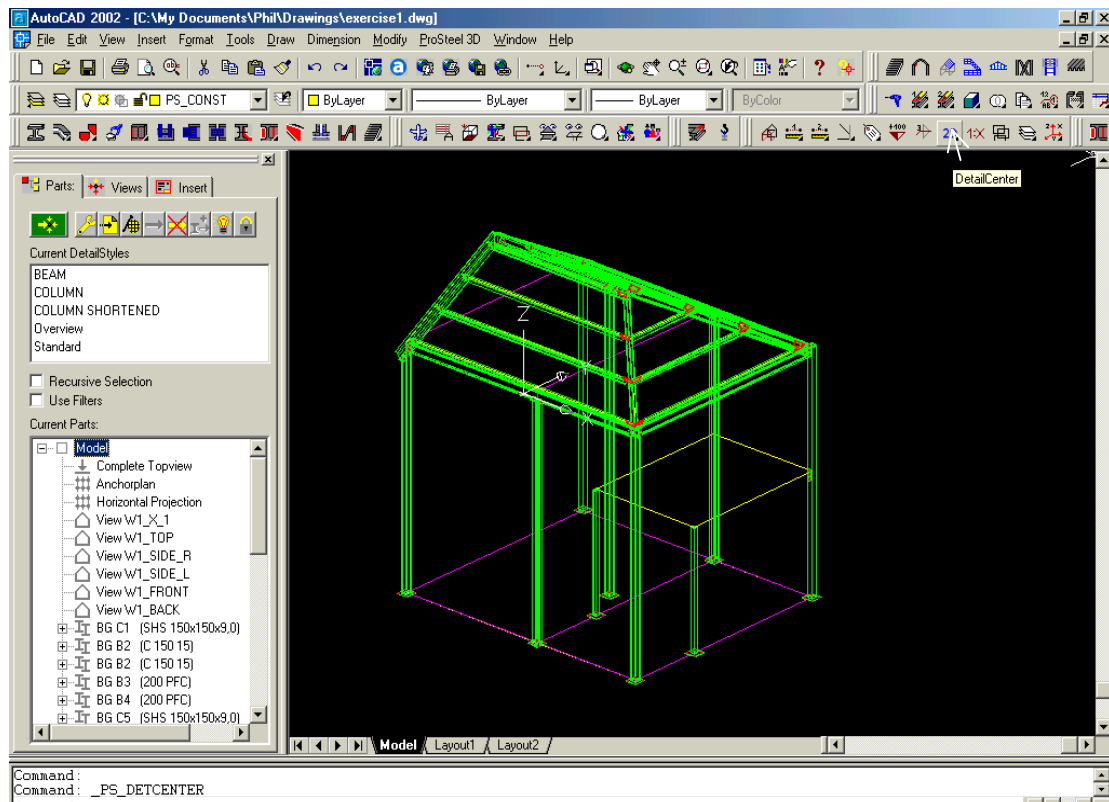

Fig. 15
1. Some views are automatically created when you use “*Workframes*”, but you may require more or you may not want to use “*Workframes*”. To do this you have to first set up your UCS. Say you want an Isometric drawing similar to Fig. 15 but with all flags on the members and in a 2D format. To do this you first need to set the UCS to the View by typing UCS on the command line and entering than type V and enter. This will set the UCS to the current view.